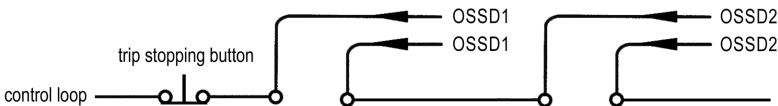
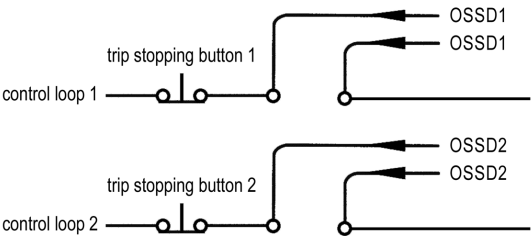

Figure 5-5 OSSD1, OSSD2 wiring with single control loop of press
Figure 5-6 OSSD1, OSSD2 wiring with double control loop of press
A. OSSD1 (green and blue) and OSSD2 (gray and white) must be connected into control circuits as Figure 5.5 or Figure 5.6. When the light passing, OSSD1, OSSD2 are close, the machine can run; when the light interrupting, they are open, the machine can't run.
If it is safety to permit to achieve “No Protection” in the back-way of the slide block, adjust the positions and angle of cam switch in accordance with conditions illustrated in Figure 5.5.